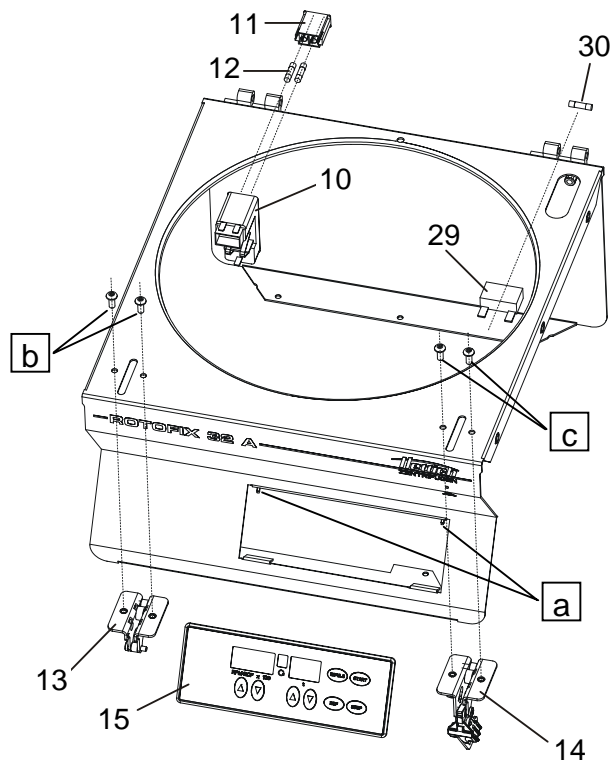

Fig. 2
- Remove the two fastening screws (Fig. 2, a) of the control panel (Fig. 2, item 15) and lift up the control panel carefully.
- Press the upper and the lower fastening clip of the appliance plug combination element (Fig. 2, item 10) and remove it out from the housing.
- Remove the two fastening screws (Fig. 2, b or c) of the lid lock (Fig. 2, item 13 or 14).
- Unplug the cables from the micro switch and from the printed circuit board of the electrical lid lock (Fig. 2, item 14).
- Remove the protective conductor from the lid lock (Fig. 2, item 14).